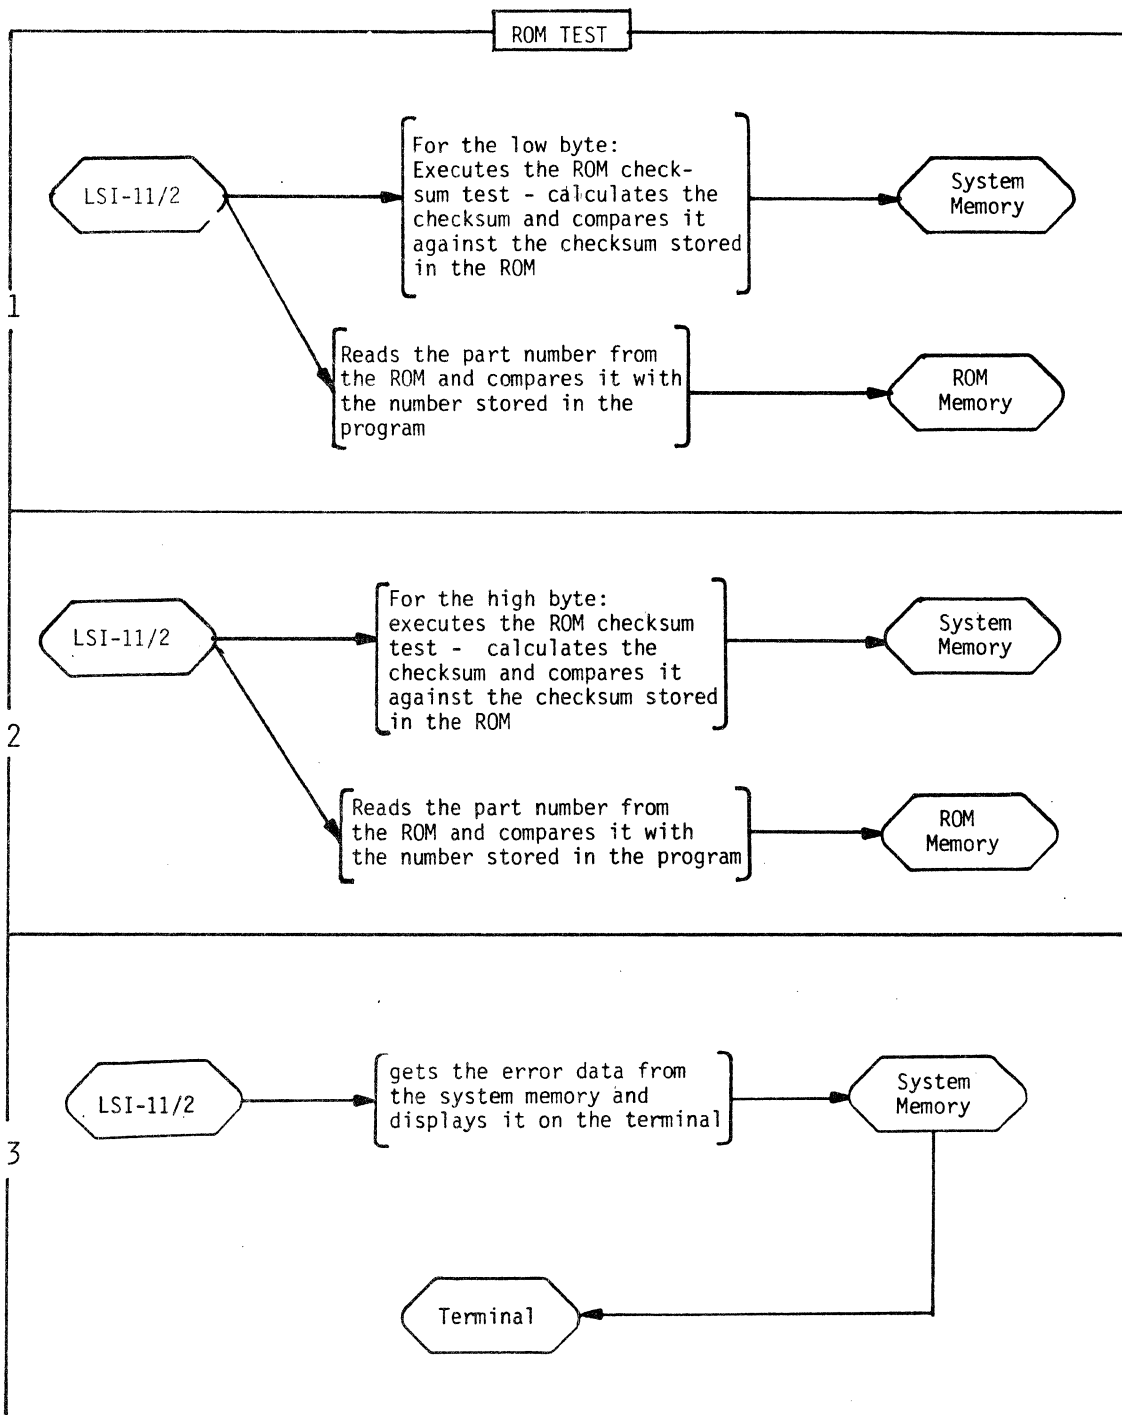

Fig. 4-6. ROM test.
1. BEGIN CHECKSUM TEST (Fig. 4-6). The disc performs the checksum test stored on the low-byte ROM, calculates the checksum and compares it against the checksum stored in the system memory. The ROM test also reads the ROM-stored part number and compares it against the part number stored in the program.